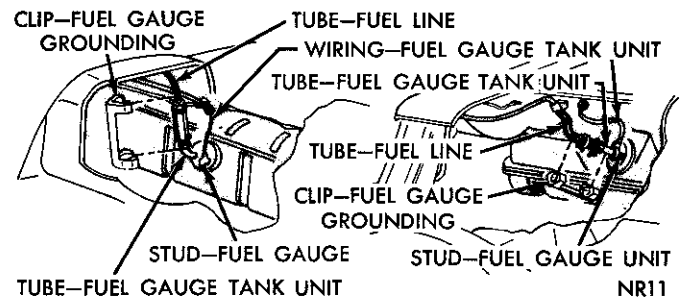

Fig. 4—Fuel Tank Ground Strap
- (1) Position fuel tank gauge unit in tank, using a new gasket. Tighten securely, using Tool C-3582.
- (2) Work fuel tank up into position in quarter panel. Move rearward until filler tube is centered in opening of quarter panel. Place straps in position and install nuts. Tighten to 40 inch-pounds. Bottom strap should be tightened first.
- (3) Install fuel line and connect ground strap (Fig. 4), and fuel gauge wire.
- (4) Raise hoist far enough to engage spring hanger with frame.
- (5) Position left rear spring hanger at frame and install attaching bolts. Tighten to 30 foot pounds.
- (6) Slide shock absorbers over pivots and secure with nuts. Tighten to 50 foot-pounds.
- (7) Install brake drum on axle flange.
- (8) Slide stone shield up into position. Install attaching screws and tighten securely.
- (9) Install wheel and tire and tighten wheel nut to 65 foot-pounds, in sequence.
- (10) Raise hoist and remove car stands.
- (11) Install fender skirt (if so equipped) and lower vehicle to floor.
- (12) Refill fuel tank and check for leaks.
- (13) For testing fuel gauge (tank unit) refer to Electrical Group 8 "Gauges".